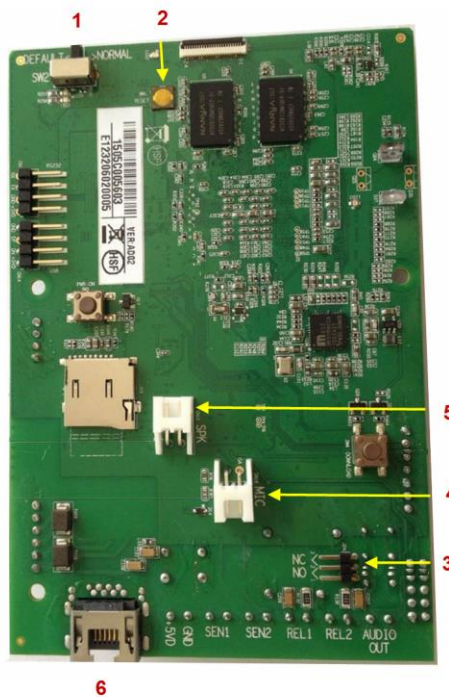

Figure 3-2 The IP Door Phone PCB Module
Figure 3-2 shows the terminal locations on the wire connector provided with the unit. This connector is then inserted into the mating connector located at the base of the internal PCB. All wiring to the unit shall be attached to the wire connector.
1. Remove the front panel cover from the Door Phone unit and find the wiring connector on the PCB module. (See Figure 3-2)
2. **Important: To set device in operational mode, switch 1 on PCB shall be switched to position “Normal”.** (See Figure 3-2)
2. **Important: To set device in operational mode, switch 1 on PCB shall be switched to position "Normal".** (See Figure 3-2)
5VD (5V DC)	External power supply 5VDC 2A input (if no POE applied). Draw attention on connection polarity: +5V and GND marked on PCB (Figure 3-2) The External Power Supply does not included in standard IP394X package
2. By using the hardware 'Factory Default Settings' switch (See Figure 3-2)